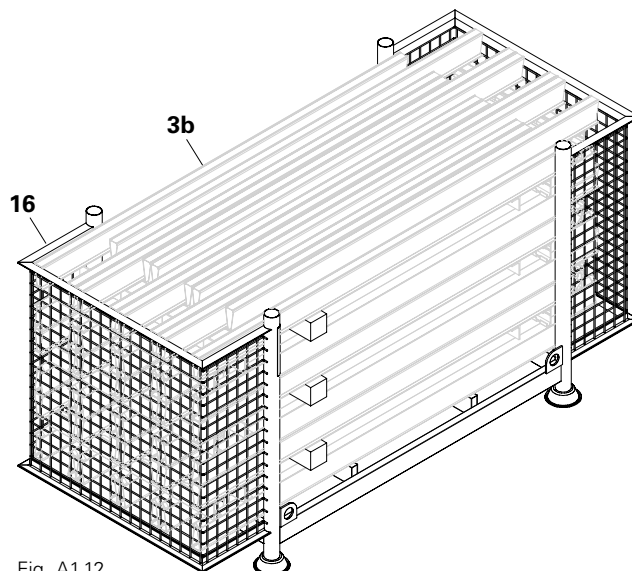

Fig. A1.12
The Pallet GF 85 x 210 (16) is used exclusively for storing GRIDFLEX Filler Elements GFL 183 x 20 (3b), maximum 42 pieces. (Fig. A1.12)